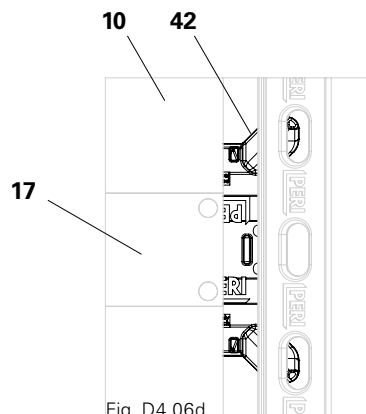
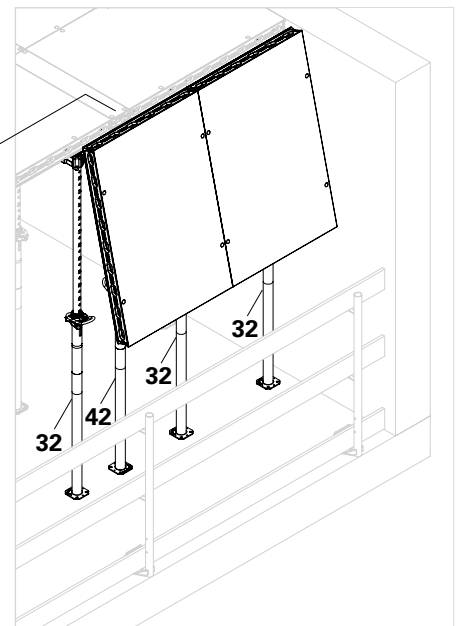

Fig. D4.06d
Fig. D4.06b
2. Attach the DP panels (10) complete with mounted brace connector to the DFH propheads (31) and DBH backpropping heads (42). (Fig. D4.06b + Fig. D4.06d)